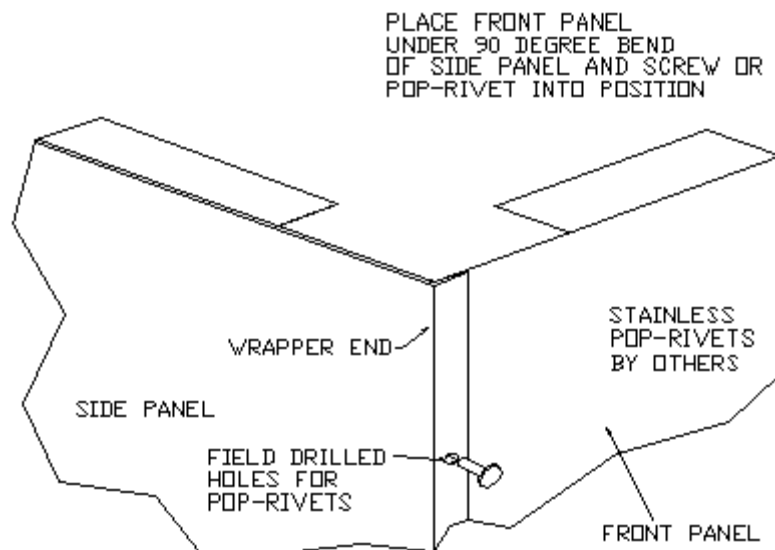

FIG.5 FRONT CORNER ASSEMBLY
- A. Hang hoods, adjusting tension on hanging rods to position hoods so they fit flush with each other (see figure 5).
6. Drill appropriate holes and rivet front to end panel. (Fig. 5)
7. If multiple panels are used (i.e. hood is side to side or back to back to another), a stainless trim will be provided to attach multiple panels together. Attach the panels by slipping them behind the stainless trim and fastening with screws or rivets. (Fig. 5)
4. Locate a corner gusset and install under top corner of the wrapper where 90 degree bend meets the front panel. (Fig. 5)